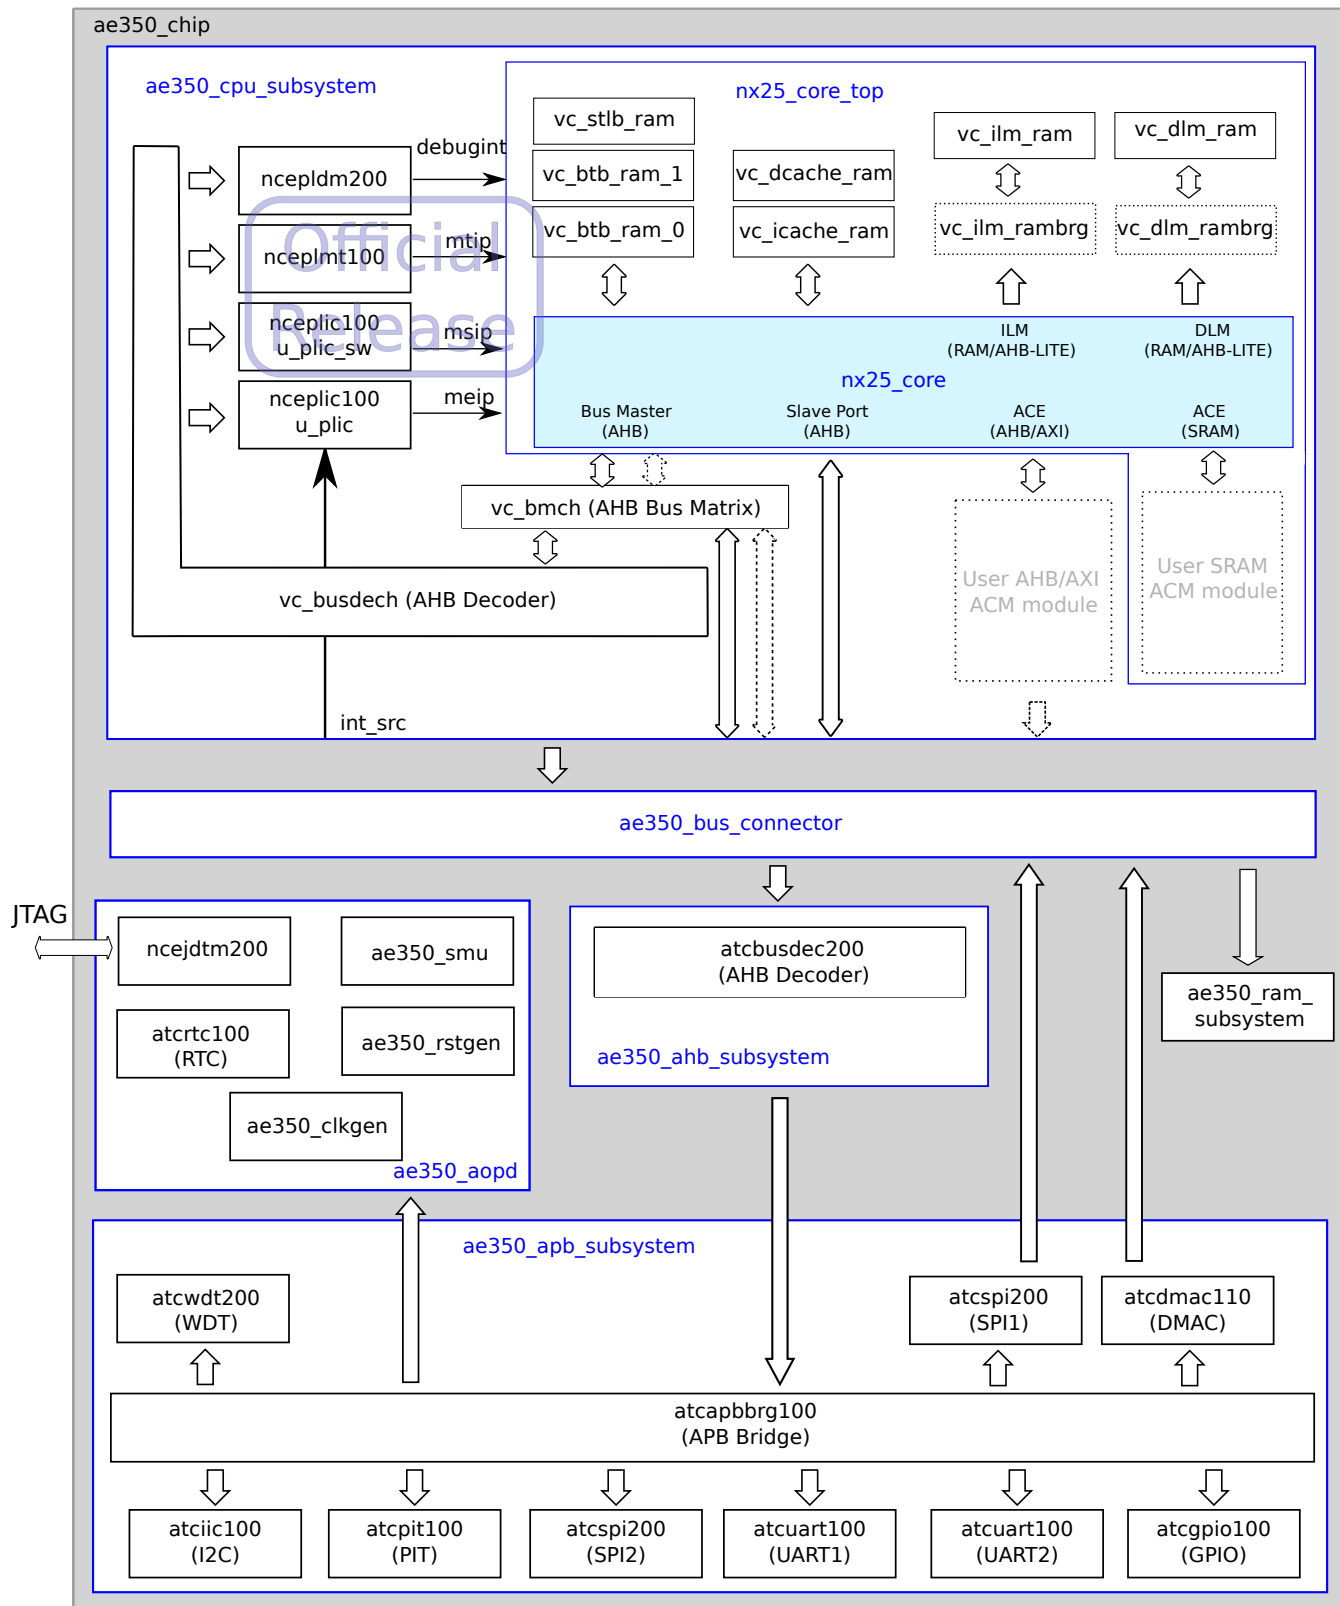
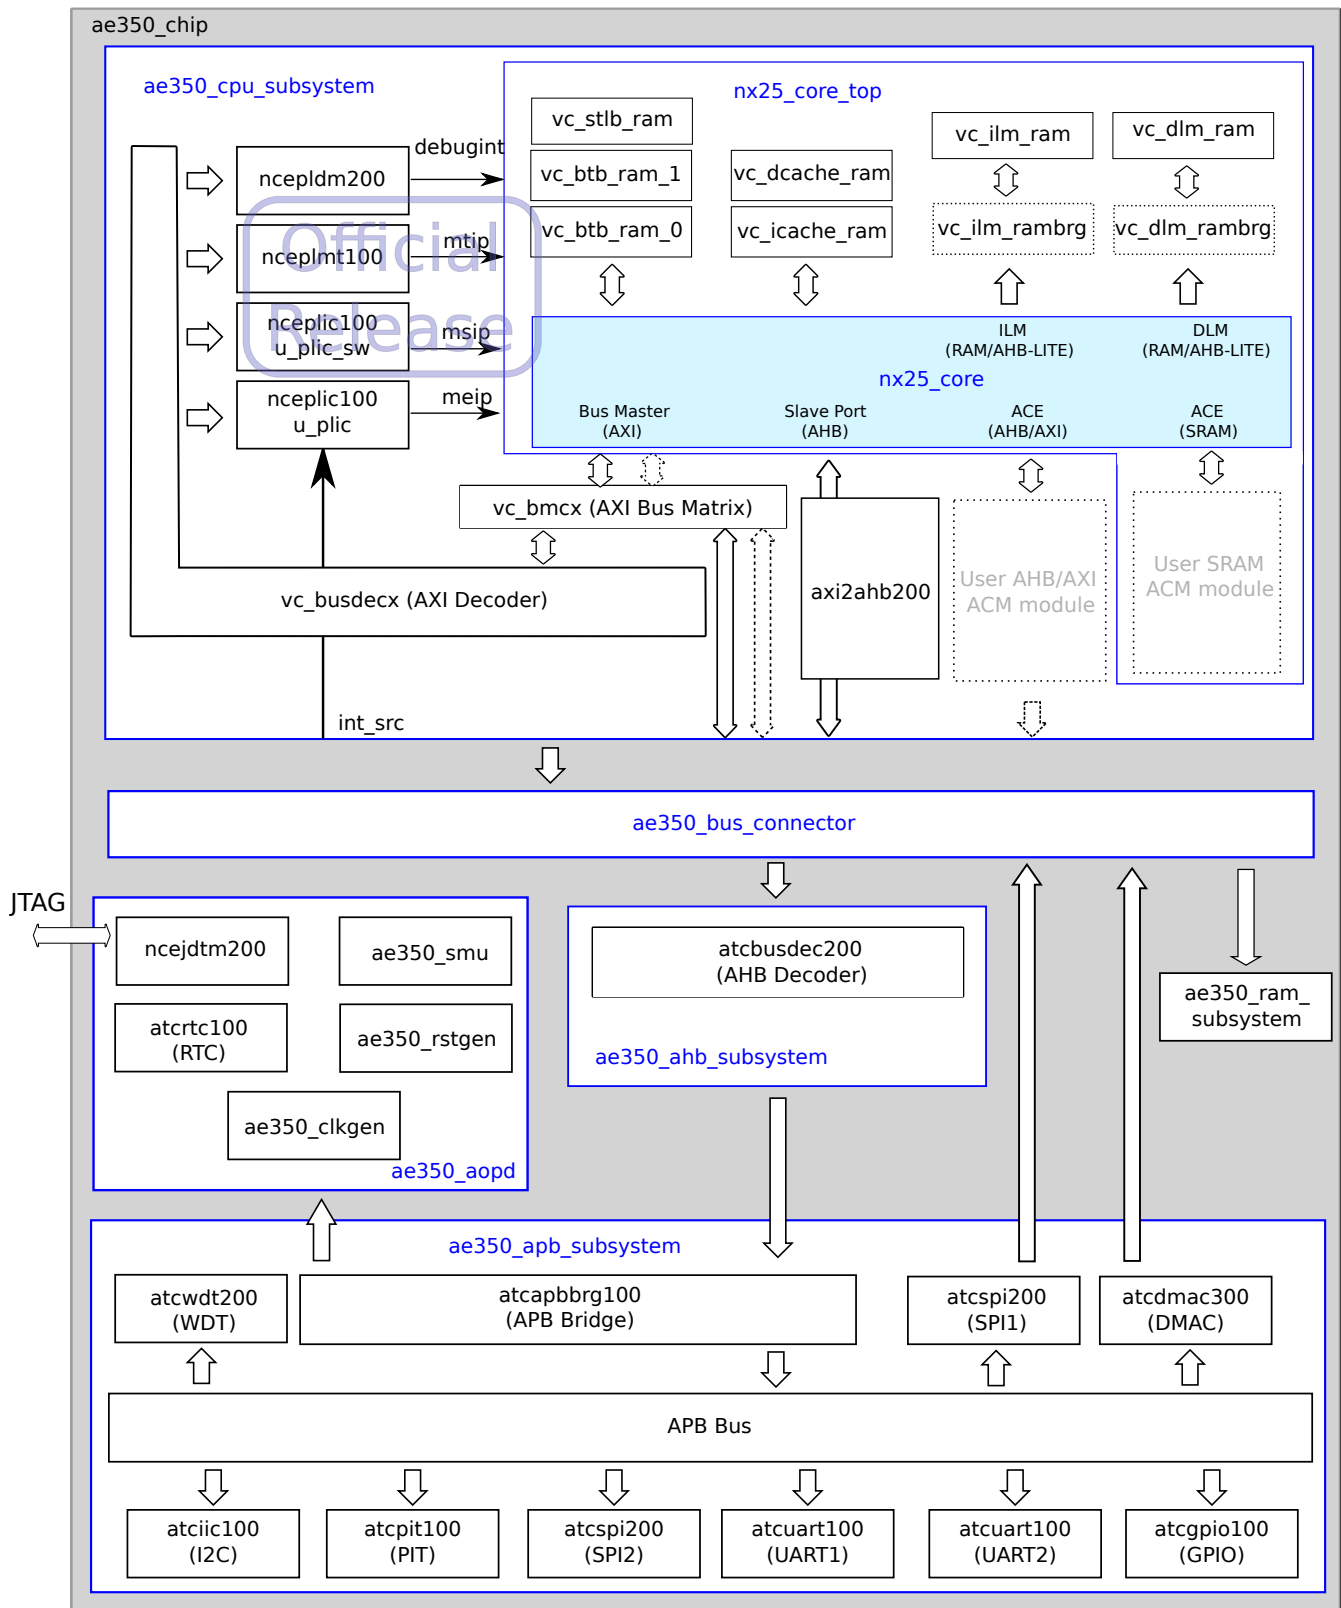

Figure 2: NX25(F) Design Hierarchy for the AHB Framework
Figure 4: Design Hierarchy for the AXI Framework
AE350 (see Section 17) supports two framework types: AHB and AXI. The design hierarchies are illustrated respectively in Figure 2 and Figure 4. The top-level module of this platform is `ae350_chip`. The `ae350_chip` module instantiates the NX25(F) processor. The top of the NX25(F) processor design is `nx25_core`.